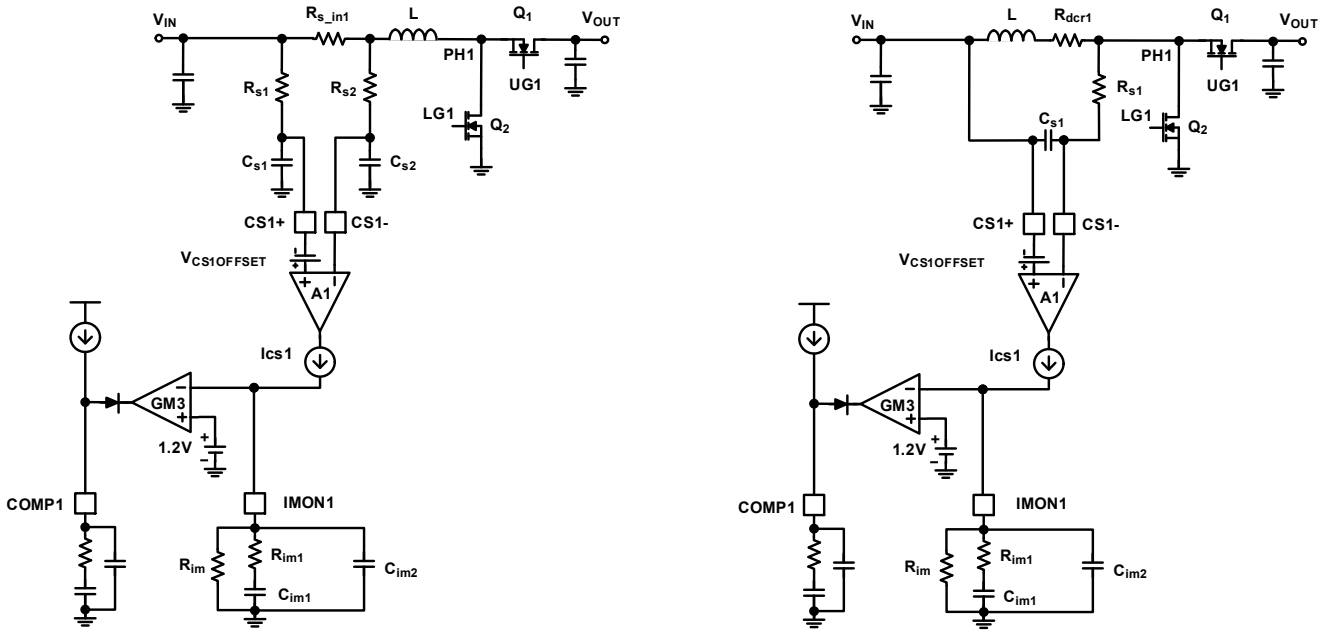

Figure 31. Input Average Current Monitoring and Regulation Loops
The ISL81807 has two current-sense amplifiers (A1 and A2) that monitor the input current of both channels. Figure 31 (A) shows the ISL81807 Channel 1 current shunt sense and monitor circuit, which is identical to Channel 2. The voltage signal on the current sense resistor  $R_{S\_IN1}$  is sent to the differential input of CS1+/CS1-, after the RC filters  $R_{S1}/C_{S1}$  and  $R_{S2}/C_{S2}$ . Renesas recommends using a 1Ω value for  $R_{S1}$  and  $R_{S2}$ , and a 10nF value for  $C_{S1}$  and  $C_{S2}$  to effectively damp the switching noise without significantly delaying the current signal or introducing too much error by the op-amp bias current. The A1 amplifier converts the current sense voltage signal to the current signal  $I_{CS1}$ .
Figure 31 (B) shows the ISL81807 Channel 1 inductor DCR current sense and monitor circuit.  $R_{DCR}$  plays the same role as  $R_{S\_IN}$  in the shunt current sense circuit. Renesas recommends keeping  $R_{S1} \times C_{S1} = L/R_{DCR}$ . To minimize the error caused by the A1 input bias current, Renesas recommends keeping  $R_{S1}$  less than 10k.
When DE mode is set, the Channel 1 and 2 boost sync FET driven by UG1 and UG2 are all running in DE mode. The inductor current is not allowed to reverse (discontinuous operation) depending on the zero-cross detection reference level  $V_{CROSS1}$  for Channel 1 and  $V_{CROSS2}$  for Channel 2 sync FET. At light-load conditions, the converter goes into diode emulation. When the load current is less than the level set by  $V_{IMON1BSTEN}$  or  $V_{IMON2BSTEN}$  typical 0.815V on the IMON1 or IMON2 pin, the Channel 1 or 2 enters Burst mode. Equation 9 sets the Burst mode operation enter condition for Channel 1 (see Figure 31). The same equation also applies to Channel 2.
As shown in Figure 31 in Input Average Current Monitoring and Regulation Loops as an example, the inductor peak current is sensed by the shunt resistor  $R_{S\_IN}$  and amplifier A1 for Channel 1. For both Channel 1 and 2, when the voltage drops on  $R_{S\_IN}$  and reaches the set point  $V_{OCSET-CS}$  typical 82mV, the low-side FET is turned off. The first level peak current limit set point  $I_{OCPP1}$  is calculated using Equation 12.
In cases of OVP protection, the inductor current becomes too negative. For the Channel 1 example, the negative current is sensed by the shunt resistor  $R_{S\_IN1}$  and amplifier A1 as shown in Figure 31. When the voltage drops on